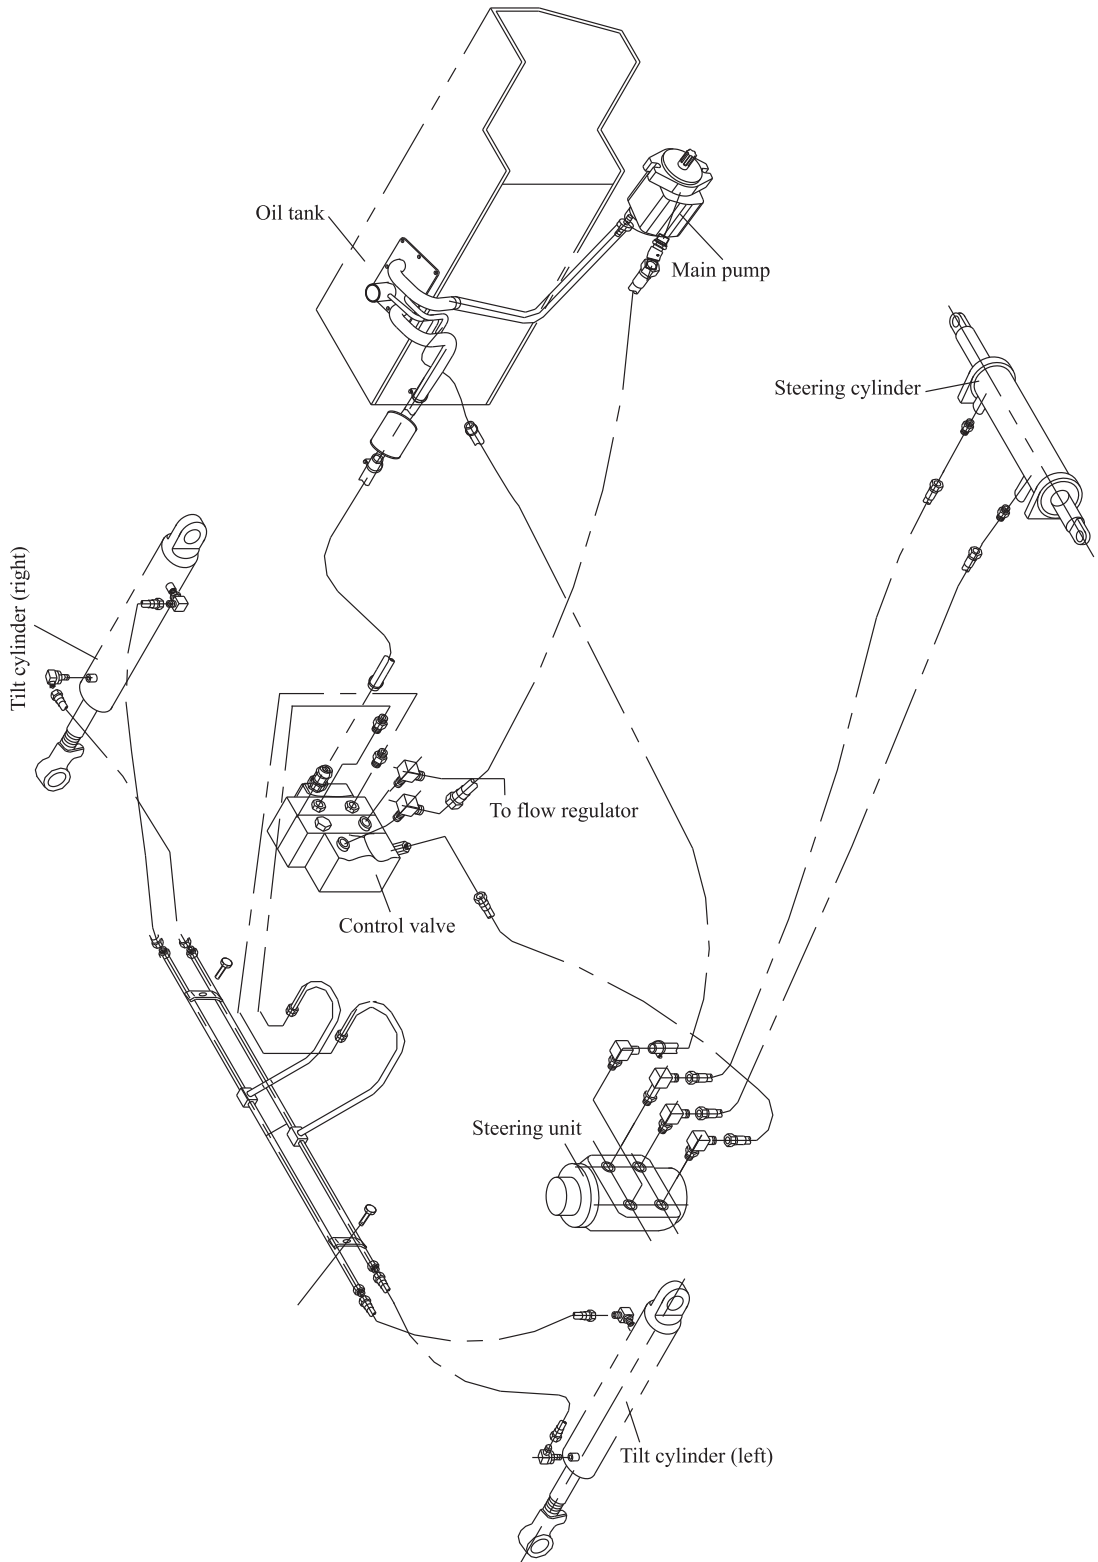

Fig.9-18 Hydraulic pipeline sketch
#### 9.8.1 Disassembly (See Fig.9-18 & 9-19 import pump)
For the convenience of checking, it is recommended to place the disassembled parts in this order as shown in Fig.9-18 & 9-19.
a) Oil seal(14) (See Fig.9-18 & 9-19)
Fig.9-18 show the sketches of hydraulic pipeline.